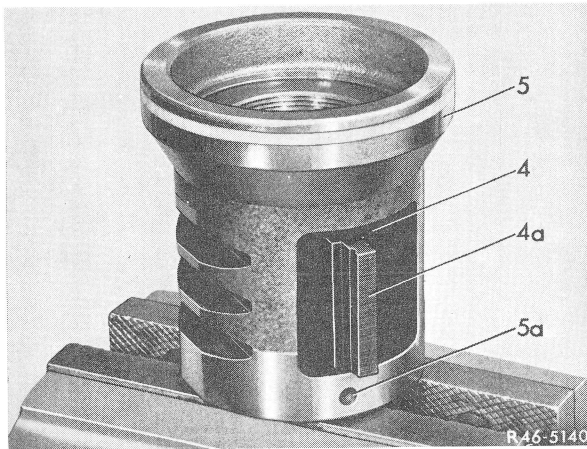

Fig. 11
11 Insert axial cyl. roller cage (34) into working piston (5) in such a manner that the sheet metal guide on roller cage enters the steering nut (4) (Fig. 11 and 12).